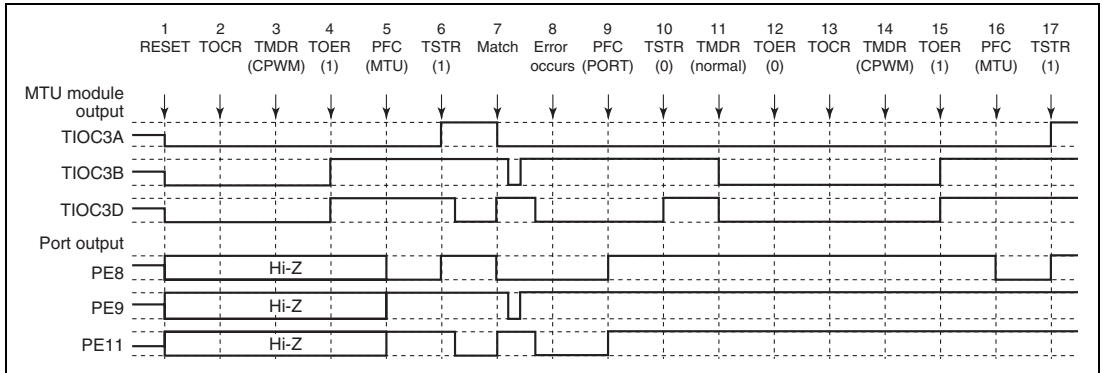

Figure 8.107 Error Occurrence in Complementary PWM Mode, Recovery in Complementary PWM Mode
(24) Operation when Error Occurs during Complementary PWM Mode Operation, and Operation is Restarted in Complementary PWM Mode: Figure 8.107 shows an explanatory diagram of the case where an error occurs in complementary PWM mode and operation is restarted in complementary PWM mode after re-setting (when operation is restarted using completely new cycle and duty cycle settings).